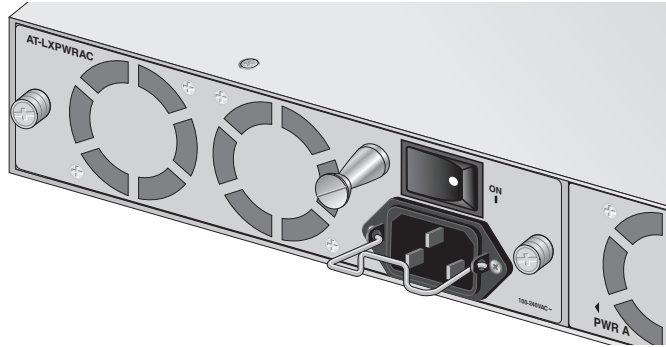

Figure 35. On/Off Switch in Off Position
1. Make sure that the on/off switch is in the Off position, as shown in Figure 35.